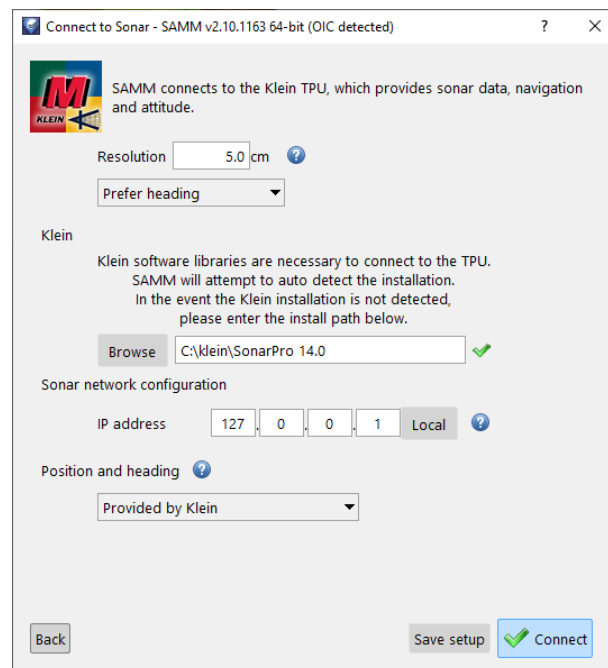

Figure 52. Klein Interfacing
7. In the Klein interface window (Figure 52), set processing parameters as necessary.